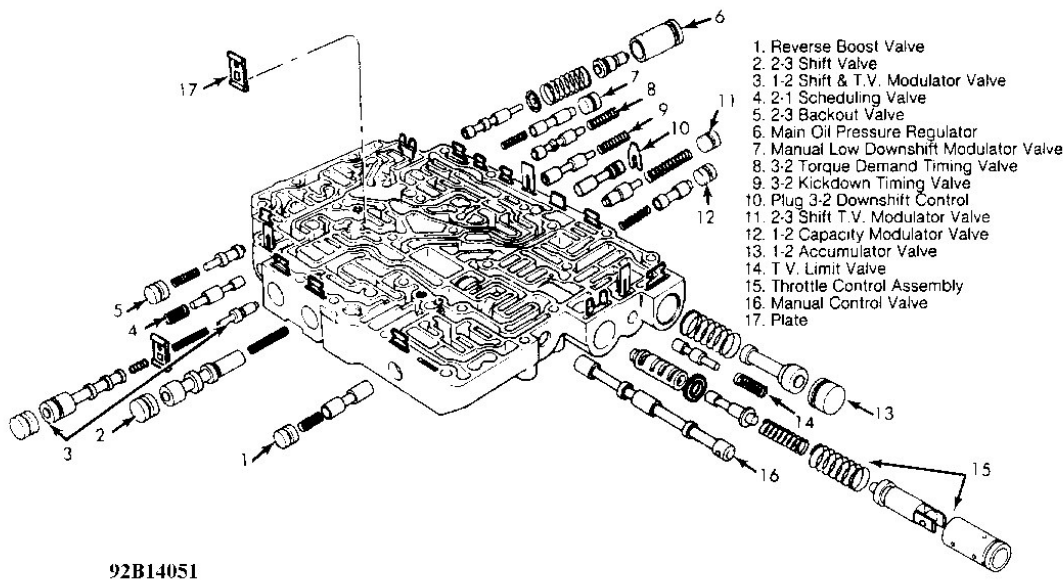

Fig. 11: Exploded View of Valve Body & Components
2. Compress valve plugs and valves to remove retainers. Remove valves and springs. Mark components as necessary for reassembly. See **Fig. 11** .